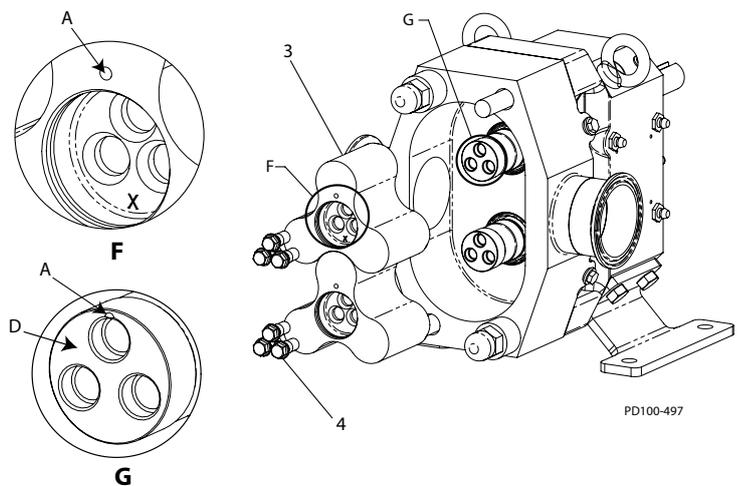

Figure 56 - Rotor Installation
2. The face of the shaft must be free of raised edges or burrs (see Figure 56, Detail G, item D).
3. **Re-using rotors:** Apply a compatible lubricant to the o-rings and install the marked rotor onto the drive shaft and the unmarked rotor onto the short shaft, making note of the alignment reference mark on the shafts for rotor positioning. (See item A in Figure 56, Detail F and G.)
**Installing new rotors:** Apply a compatible lubricant to the o-rings and install the rotors onto the shafts, making note of the alignment reference mark on the shafts for rotor positioning. (See item A in Figure 56, Detail F and G.) Stamp an "X" approximately 3mm high in the face of the counterbore opposite the alignment reference mark. See Figure 56, Detail F; also see Figure 31 for a larger view.
4. Install one lug screw (Figure 56, item 4) into the hole nearest the reference mark in each rotor.